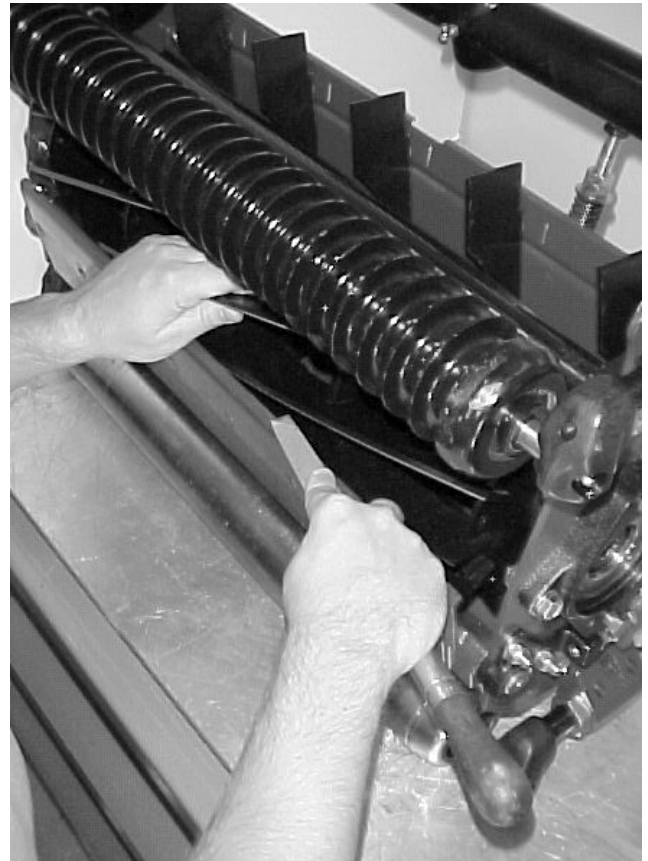

Figure 24
12. When the cutting unit is adequately sharpened, a burr will form on the front edge of the knife. Using a file, carefully remove the burr without dulling the cutting edge (Fig. 24).